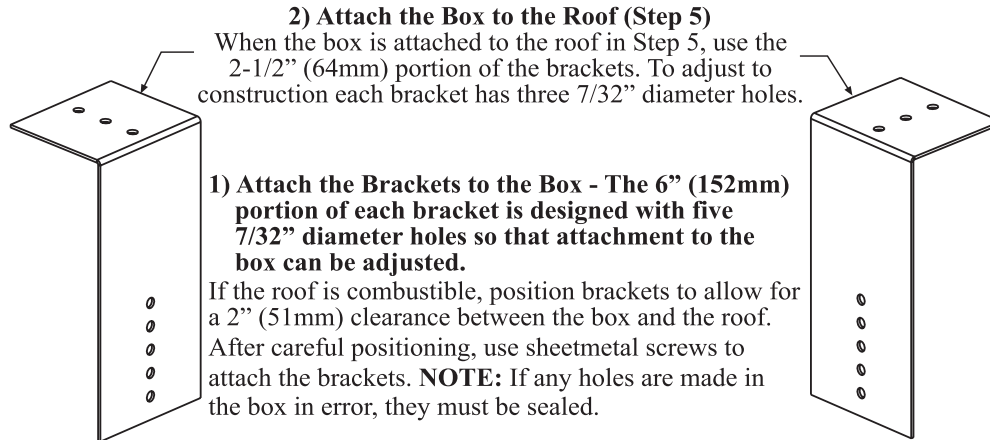

Figure 14. Concentric Adapter Box Brackets
- Refer to Figure 14 to attach brackets to box.
- Refer to Figure 14 to attach concentric adapter box brackets to wall
- e. Refer to Figure 14 to attach concentric adapter box brackets to wall